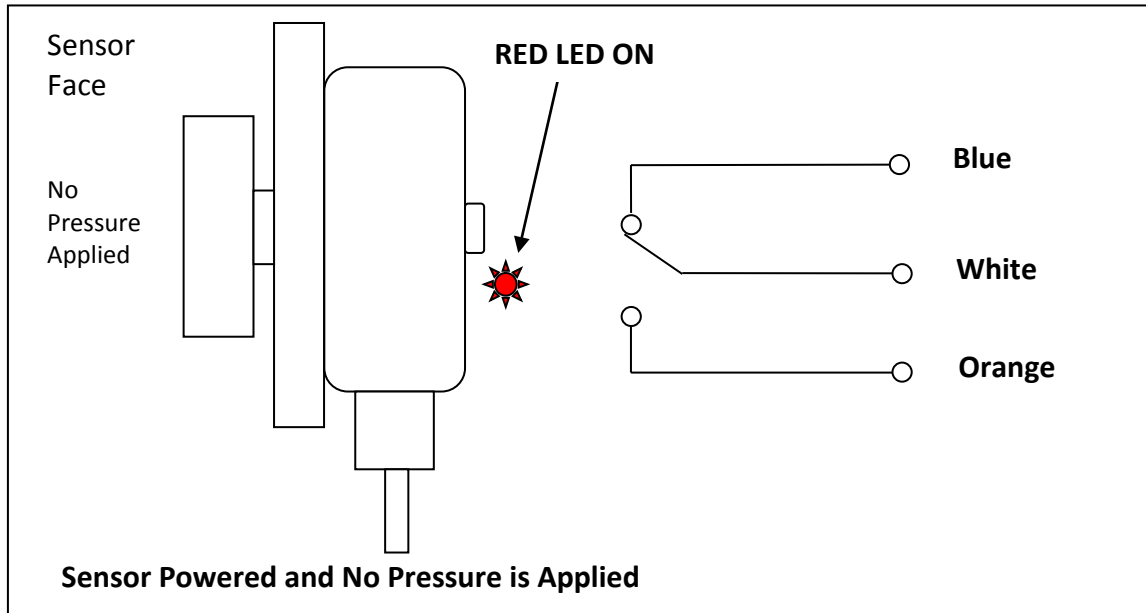

Figure 8 - TouchSwitch in OK Condition
- 2) Slowly turn the test knob (see Figure 8) clockwise by hand, until the LED goes OFF